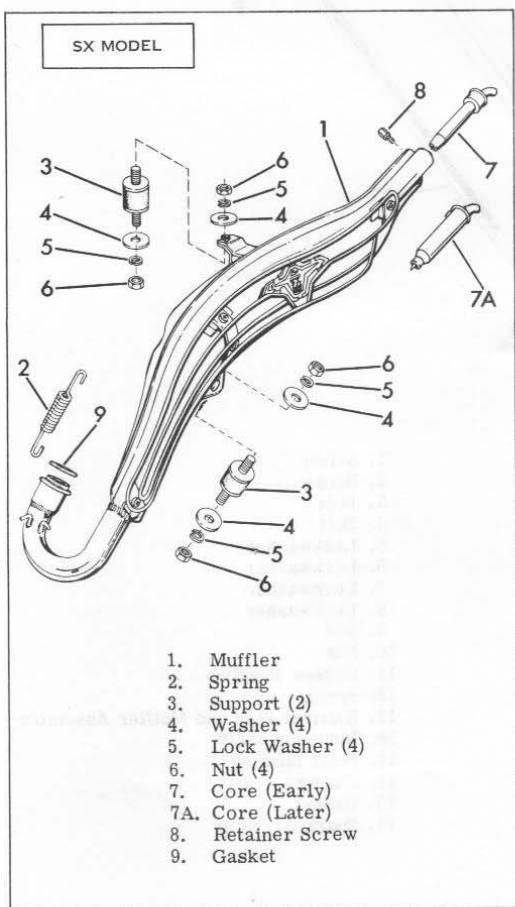

Figure 3.41. Exploded View of Muffler, SX Model
Unhook springs (2), Figure 3.41, that anchor muffler (1) to cylinder. Detach hardware that fastens muffler to two rubber supports (3) on frame. Slip end of muffler off engine cylinder exhaust pipe, freeing it completely. Remove core retainer screw (8) so that core (7) is free to come out of muffler shell. With a pliers, turn core 1/4 turn and pull from muffler shell.
When the parts are completely clean, reassemble muffler. The muffler core (7), Figure 3.41, should be pushed in, twisted 1/4 turn, then aligned in the muffler shell with retainer screw (8) holes lined up. Reinstall retainer screw (8).